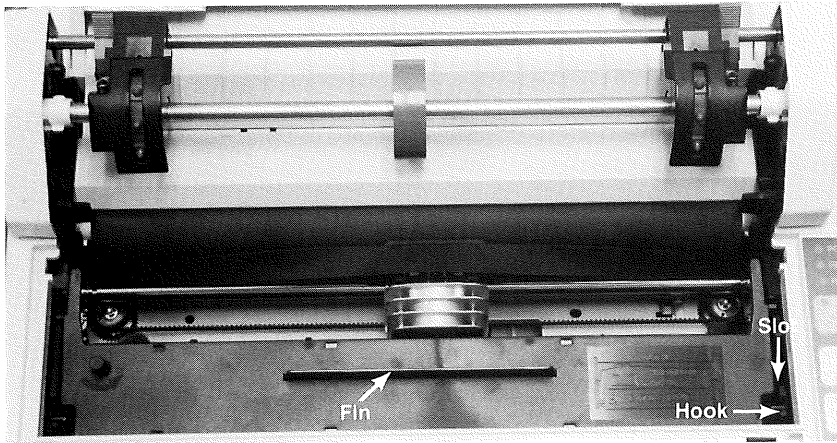

Figure 17.
27. Hold the ribbon cartridge by the fin and lower it into the printer. Place the hooks on each end of the cartridge into the slots in the printer. Push down on the ribbon cassette until it snaps into place. See Figure 17.